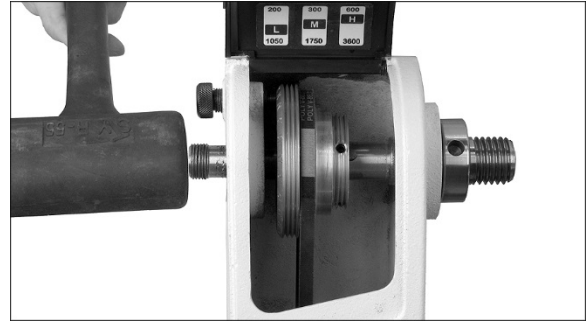

Figure 30
8. Use a rubber mallet, or hammer against a block of wood, to tap spindle toward tailstock (Figure 30).